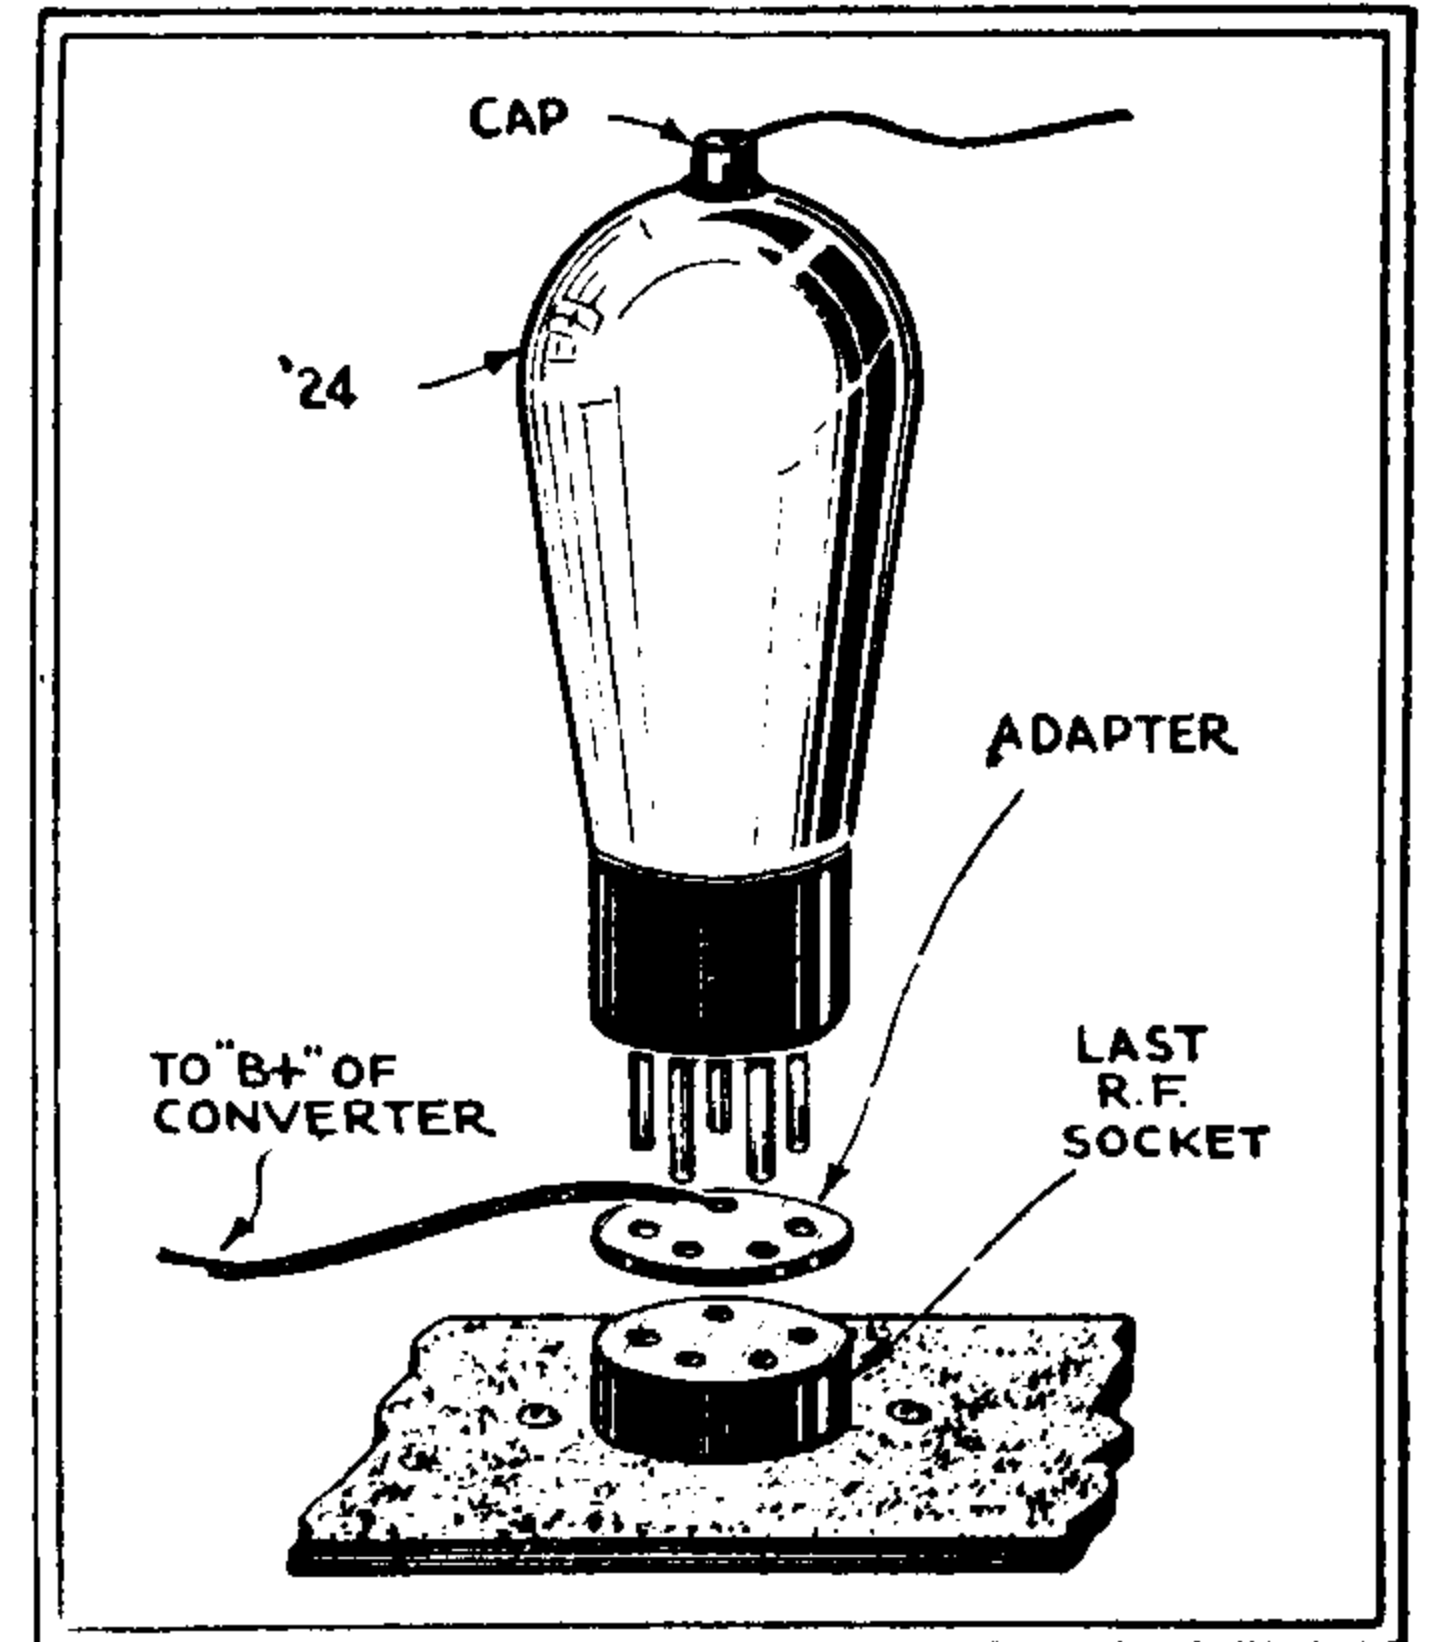

Fig. 4
converter lead, designated for that purpose, must be tightly wound over the screen-grid prong. Or, if a lug is at hand, the lead should be soldered to it and placed on the prong, making sure that the contact is solid. It has been found that a connection made to the last R.F. amplifier screen-grid tube affords the best results; since the supply voltage is usually most constant at this point. (Fig. 4)
Leaving the power pack connected to the set, and, removing all tubes except the rectifier, place a wire (X) from the plate of the detector tube to the plate of the power tube (Fig. 4). This will impress upon the primary winding of the first A.F. transformer the whole output of the pack (less the detector voltage). Where the output is 400 volts or more, open second-stage transformer windings can be "healed" in like manner by connecting the plate of the first audio tube to the plate of the power tube (Fig. 5.)